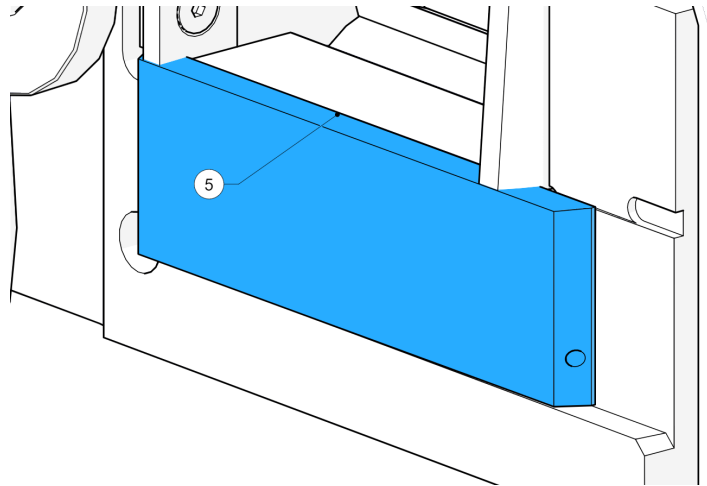

Figure 62 - Anvil in horizontal seat
14. Insert the anvil through the side of the chamber, making sure that the anvil stays tight to the bed plate (5, Figure 62).